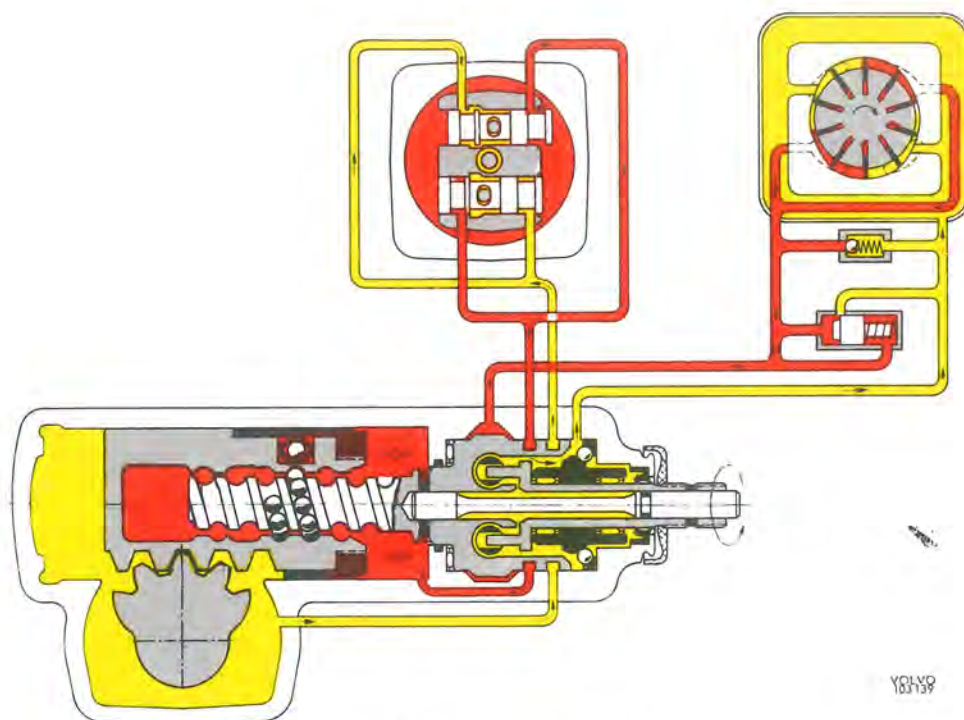

Fig. 6-47. Function, left-hand turn
When the steering wheel is turned to the left (see Fig. 6-47) movement is transmitted via the steering spindle (16) and the torsion bar (17) to the worm (5), so that the piston (2) is screwed to the left in the figure (downwards in the vehicle). Since the torsion rod is resilient, the steering spindle will be turned in relation to the worm and thus influence the valves placed in the worm. The greater the turning movement, the greater will be the valve displacement. One of the valve pistons (9) is then displaced to the right and opens the intake port (8) wider, while at